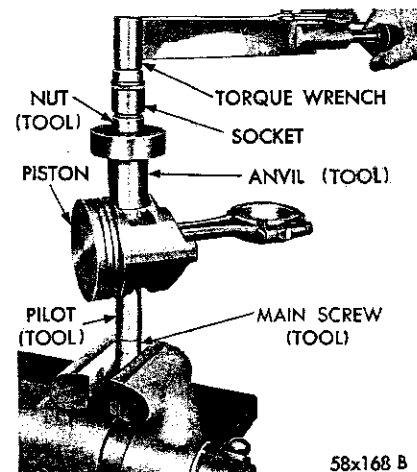

Fig. 43—Testing Fit with Pin in Connecting Rod
(11) Place the assembly in a vise, as shown in Figure 43.
(12) Attach the torque wrench to nut and tighten up to 15 foot-pounds torque. If the connecting rod moves downward on the piston pin, reject this connecting rod and piston pin combination. Obtain a connecting rod with proper small end bore diameter and repeat the installation and tightening procedure.
(13) If the connecting rod does not move under 15 foot-pounds torque, the piston pin and connecting rod interference is satisfactory, the tool may be removed.